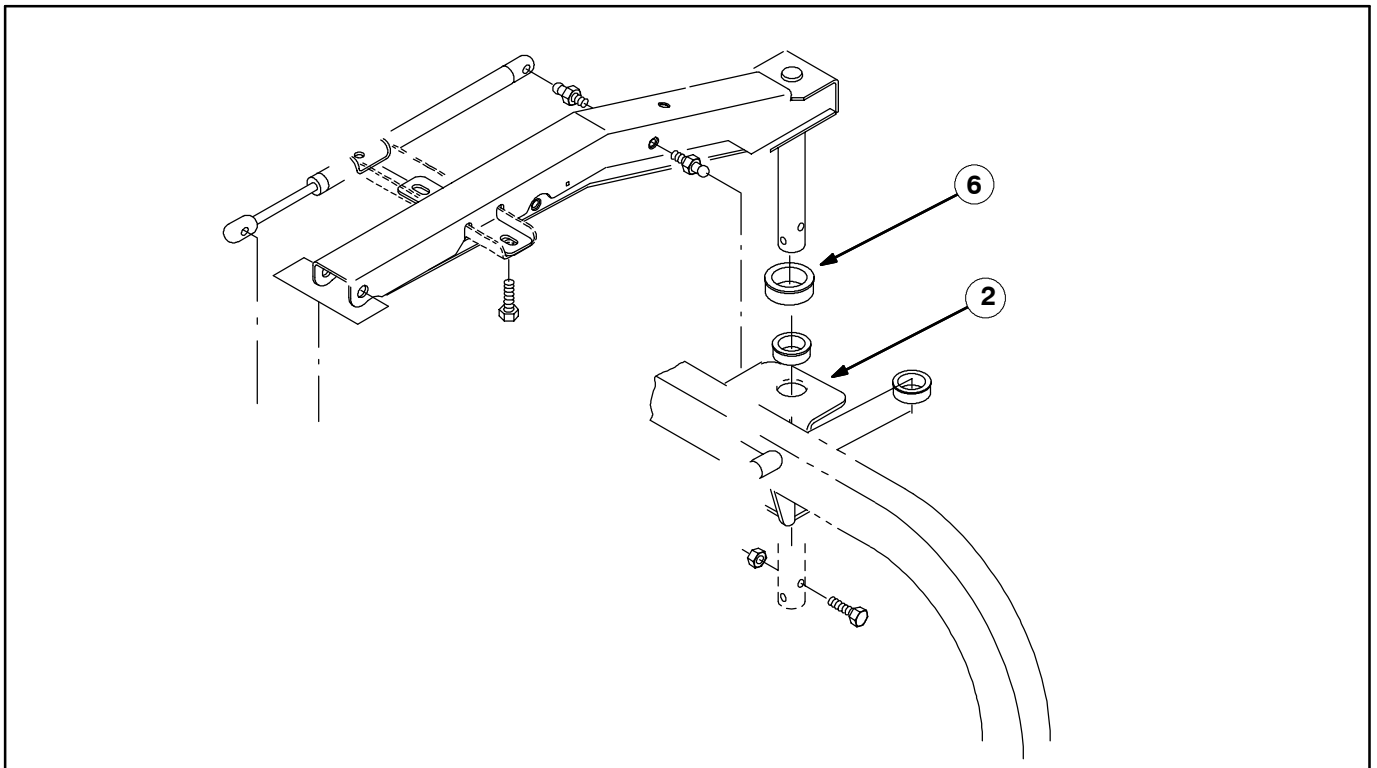

FIG. 4 - New Spacer Tube Installation
7. Replace the vacuum support arm in the **boom pivot bracket 368666 (2)** with new **spacer tube 368109 (6)**. (Refer to FIG. 4)